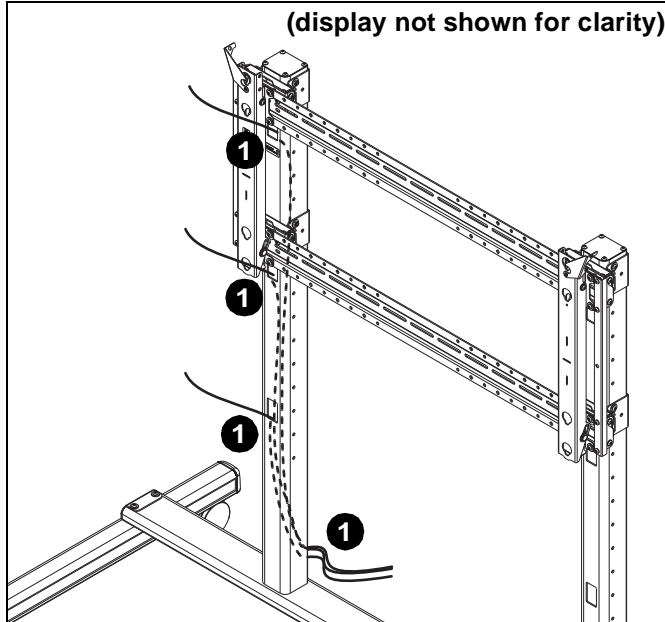

Figure 16
1. Route cables from display through nearest holes on front of columns and out through back cable management hole. (See Figure 16)